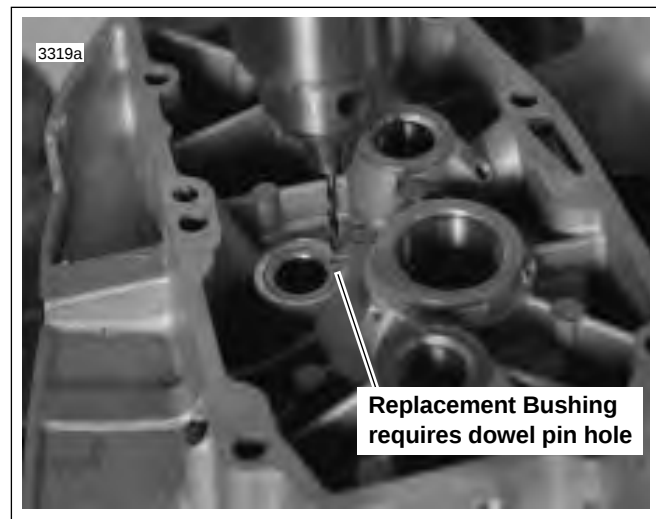

Figure 3-65. Drilling Dowel Pin Hole
2. Although the original pinion shaft bushing is not "pinned," the replacement bushing must be secured, from possible rotation within the cover bore, by installation of a dowel pin. See Figure 3-65. Drill a No. 31 hole, 0.281 in. (7.137 mm) deep, at top side of boss (side toward top of gearcase cover), centering the drill bit on the cover bore circle (hole is drilled half in bushing OD and half in cover bore ID).